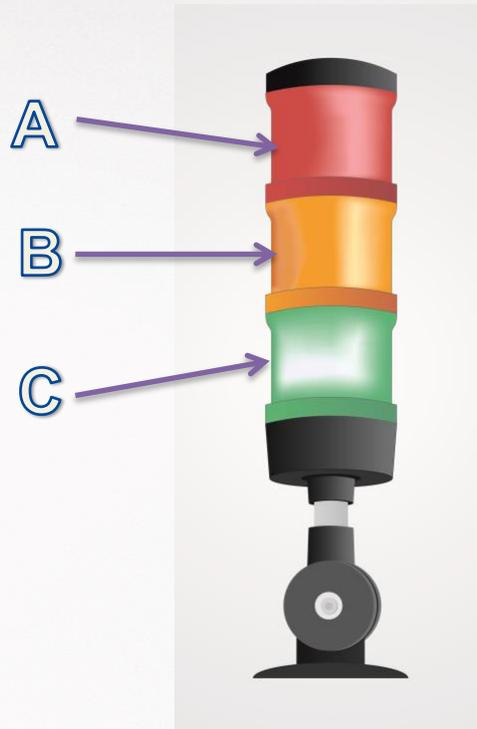

Fig.8. The signal light column:
15. SIGNAL LIGHT COLUMN (Fig.8):
16.ELECTRODE UP – a foot switch-key (Fig.8) is a tool used for lifting up the electrode.
17.ELECTRODE DOWN – a foot switch-key (Fig.8) is a tool used for lowering the electrode.